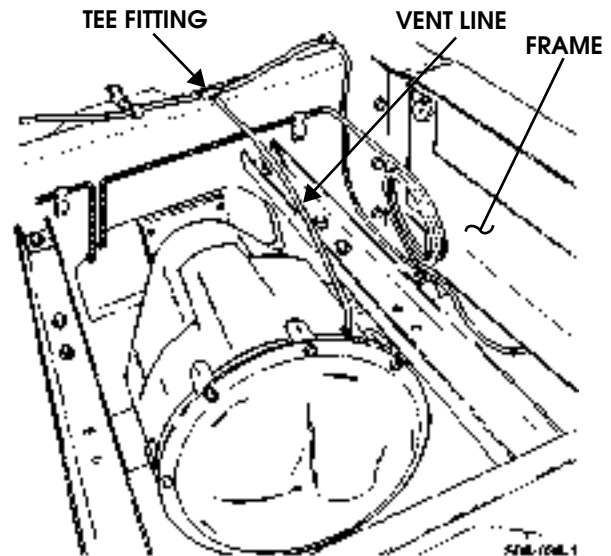

Figure 9-51: Vent Line
5. Remove bolt, clamp, and vent line from frame (Figure 9-51).
1. Secure vent line to frame with clamp and bolt (Figure 9-51).